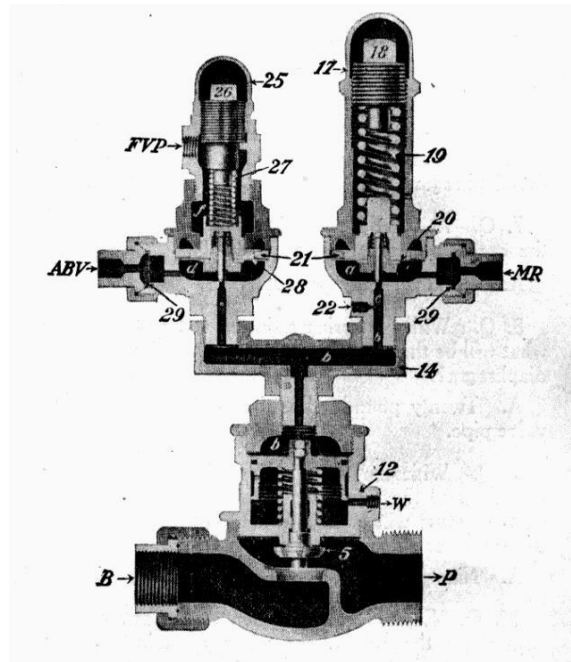

Fig. 1: The SF-4 Compressor Governor.
2. Q. What does Fig. 1 represent?
A. From the main reservoir direct. (See Fig. 1.)